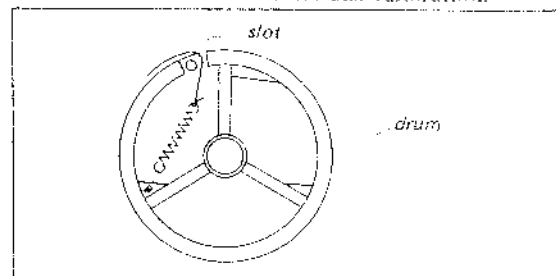

Fig. 2-5. Coil spring installation
1. Hook the spring to one hole of the drive drum as shown in Fig. 2-5, and then squeeze it.